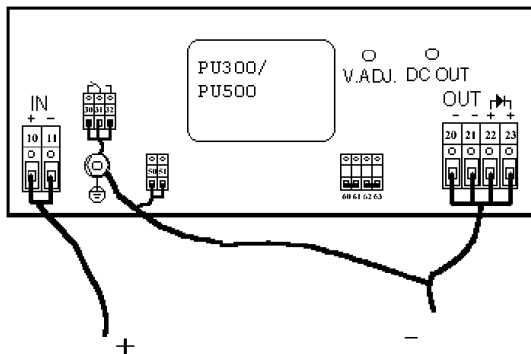

Figure 8. Input to output and input to case isolation voltage test.
4. Connect your isolation tester between input and case. See *Figure 8*. Raise the voltage of the isolation tester from 0V to corresponding value in *Table 2*. Check that the leakage current does not exceed 5 μ A. The voltage should not be applied for more than a few seconds or the Y-capacitors might be damaged.
2. Connect the output terminals of the converter to case. See *Figure 8*.
4. Connect your isolation tester between input and case. See *Figure 8*. Raise the voltage of the isolation tester from 0V to the corresponding value in *Table 2*. The voltage should not be applied for more than one (1) minute or the Y-capacitors might be damaged.